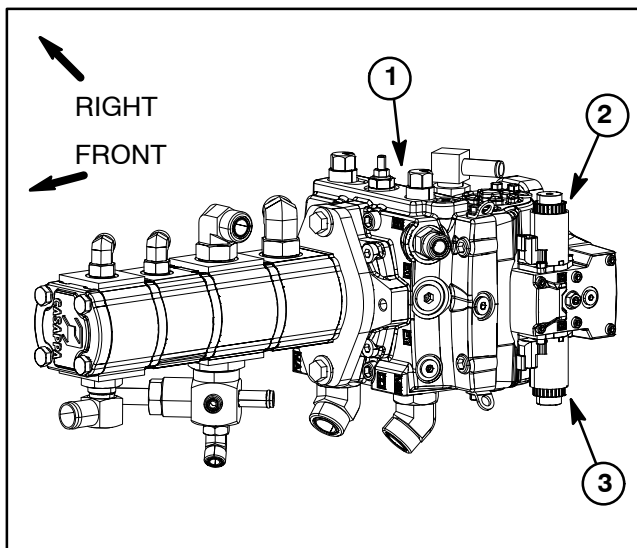

Figure 53
The piston (traction) pump uses an electronic control assembly for swash plate rotation. Electrical outputs from the machine TEC controller are provided to two (2) solenoid coils for pump control. The piston pump control assembly is attached to the left side of the piston pump (Fig. 53).
2. Locate piston pump solenoid coil to be tested (Fig. 53). Disconnect wire harness connector from solenoid coil.
3. Using a multimeter (ohms setting), measure resistance between the two (2) connector terminals on the solenoid coil. Solenoid coil resistance should be **3.66 ohms**.